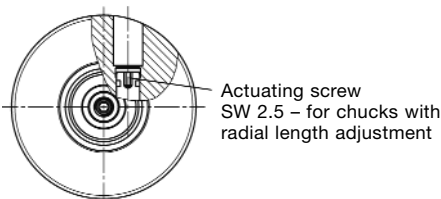

Fig. 3
- The length adjustment screw is adjusted via the actuating screw using the socket wrench provided (see Fig. 3, Section B - B and Fig. 4).